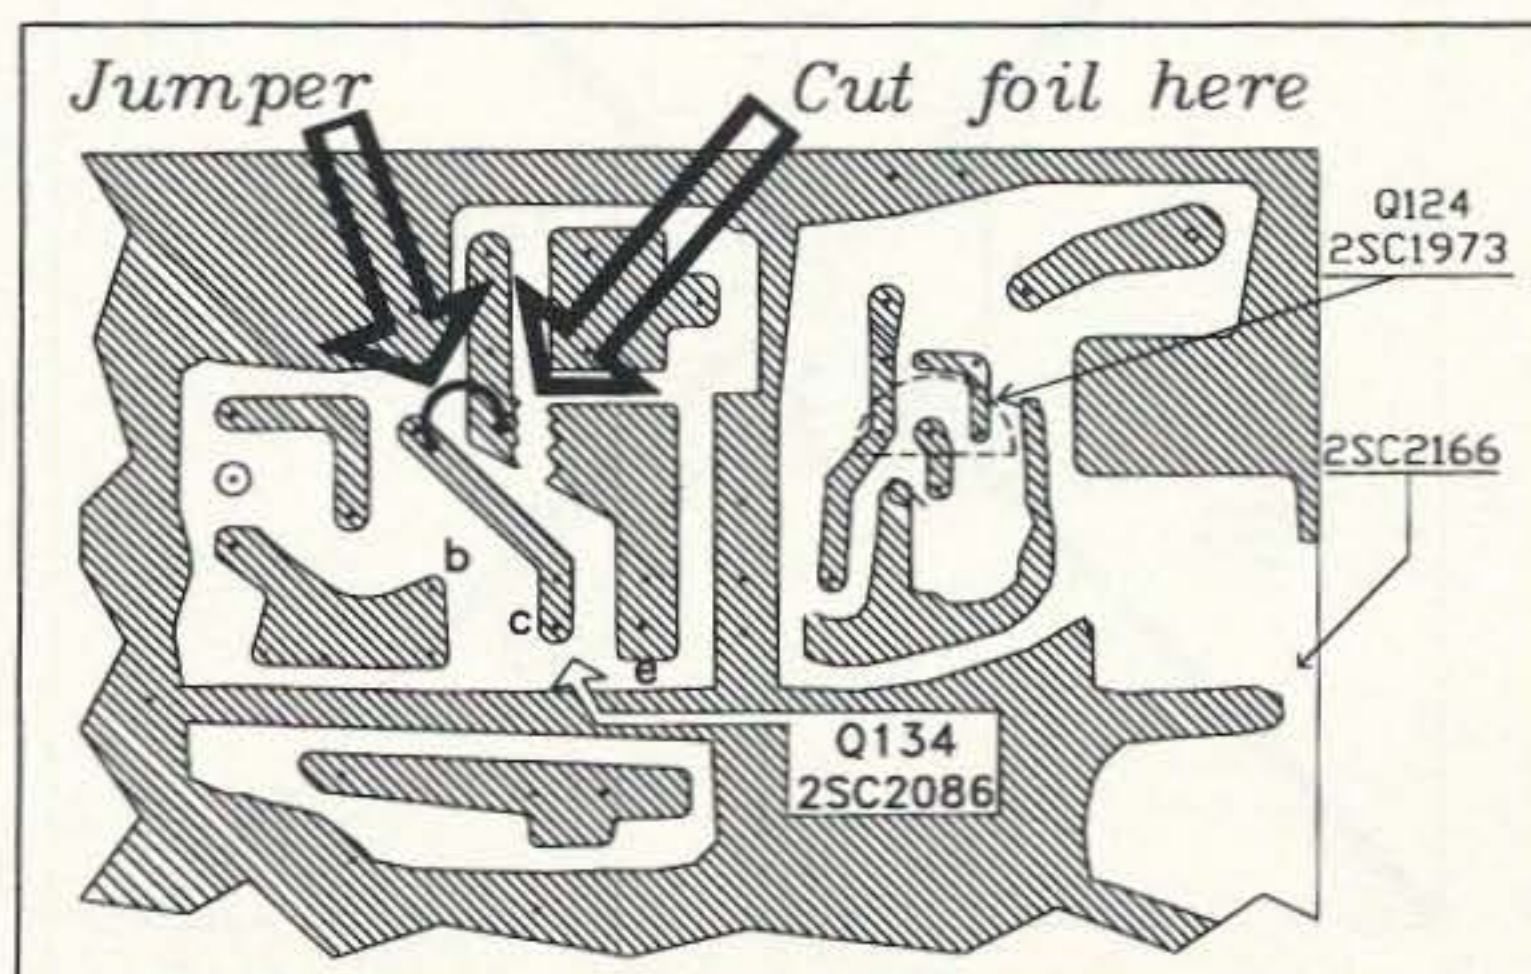

Figure 2. Modifications to the PC board, bottom view.
3. Turn off the power and locate Q134, the 2SC2086 amplifier transistor. Cut the foil (as shown in Figure 2) to remove the